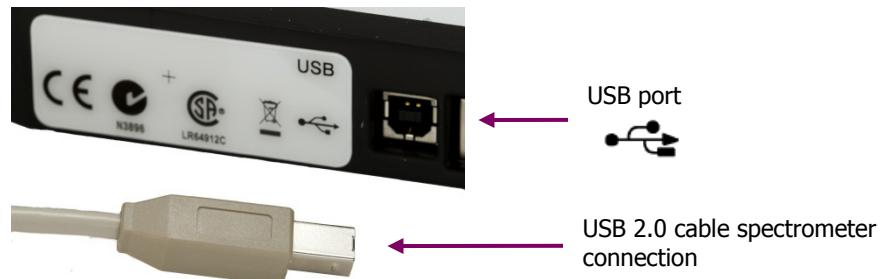

Figure 14 USB 2.0 cable connector and USB port
- When prompted by the Spectrum software installer, plug one end of the USB 2.0 cable provided into the USB port on the rear of the instrument (Figure 14).
NOTE: For AssureID, install the USB drivers, connect your spectrometer as shown in Figure 14, start AssureID, and then run the Instrument Install Wizard (see page 44). Refer to the *AssureID Administrator's Guide* (part number L1050019) for more information.